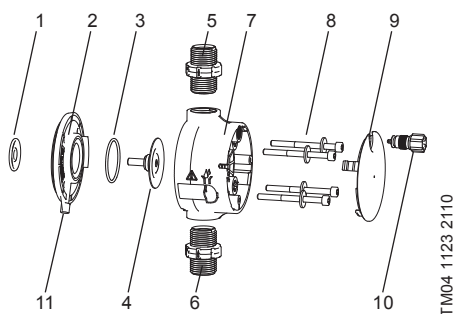

Fig. 41 Changing the diaphragm and valves
Daily	Check, if liquid leaks from the drain opening (fig. 41, pos. 11) and if the drain opening is blocked or soiled. If so, follow the instructions given in section 7.6 Diaphragm breakage .
This section refers to fig. 41.
If the diaphragm leaks or is broken, dosing liquid escapes from the drain opening (fig. 41, pos. 11) on the dosing head.
In case of diaphragm breakage, the safety diaphragm (fig. 41, pos. 1) protects the pump housing against ingress of dosing liquid.
When dosing crystallising liquids the drain opening can be blocked by crystallisation. If the pump is not taken out of operation immediately, a pressure can build up between the diaphragm (fig. 41, pos. 4) and the safety diaphragm in the flange (fig. 41, pos. 2). The pressure can press dosing liquid through the safety diaphragm into the pump housing.